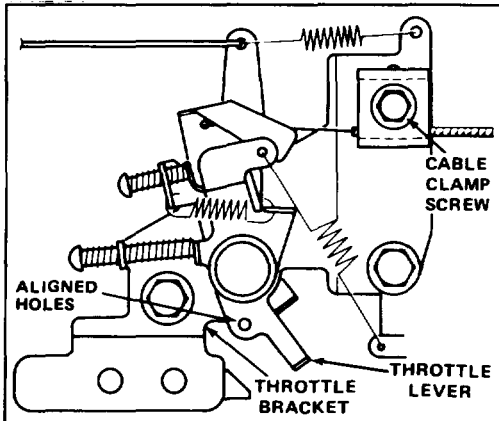

Figure 21
4. Loosen cable clamp screw until throttle cable slides (Fig. 21). Align holes in throttle lever and throttle bracket. Pull throttle cable slightly to remove any slack and tighten cable clamp screw to lock adjustment in place.